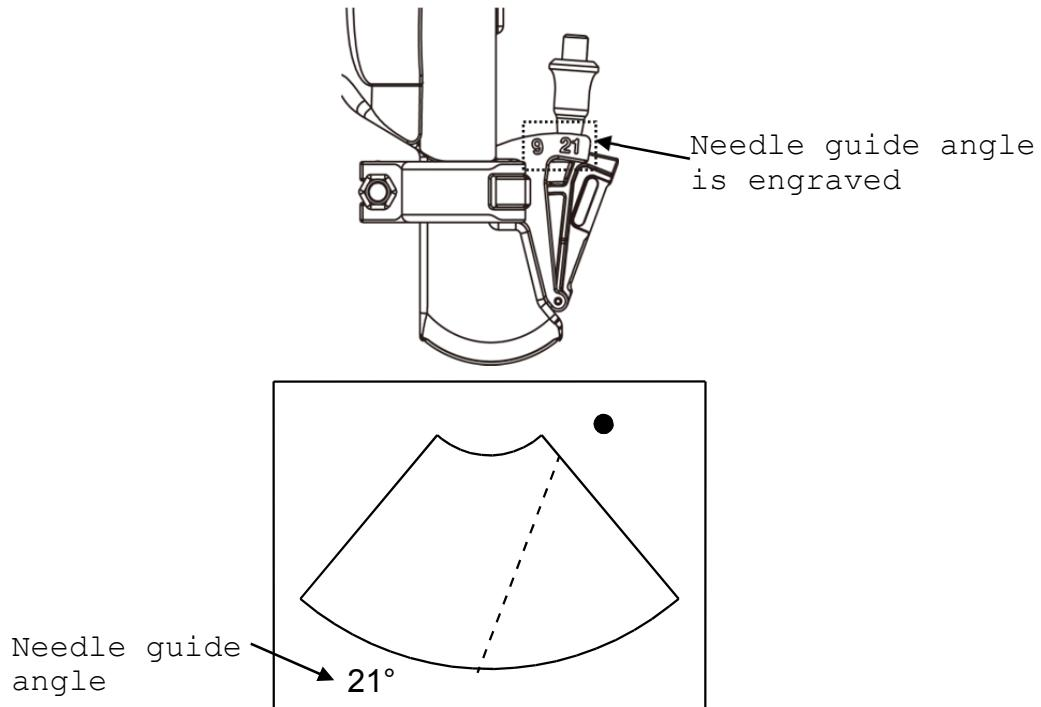

Fig. 3 Needle guide angle
3) Confirm that the needle guide angle corresponds to the angle indicated on the monitor. The needle guide angle is engraved on bracket. (See Fig. 3)